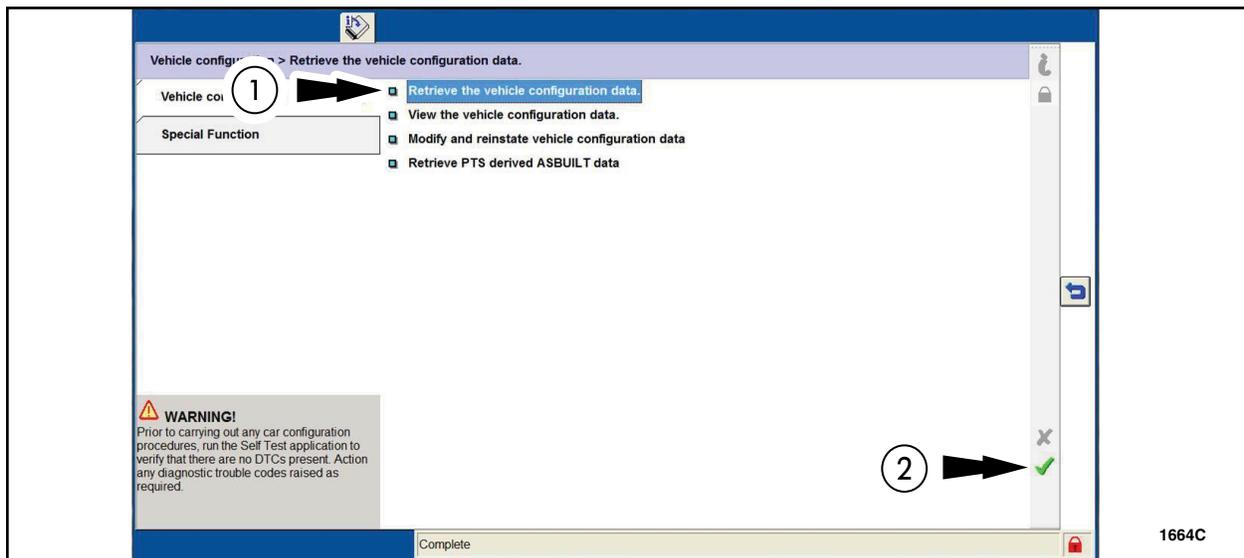

FIGURE 2
2. Using IDS, return to Car Configuration Parameters (from the Module Programming menu, select Programmable Parameters > Car Configuration Parameters). Select Retrieve the vehicle configuration data and then click the tick mark. See Figure 2.